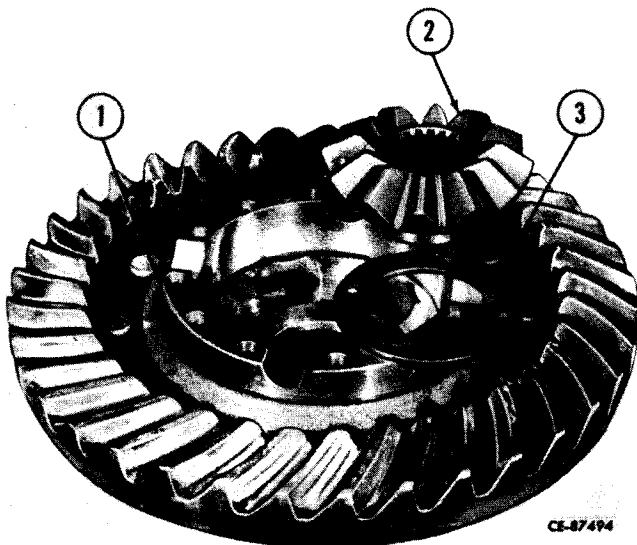

Figure 6-28
Position thrust washer (3, Fig. 6-28) and side gear (2) in ring gear and case-half assembly (1) after lubricating parts with new axle lubricant.